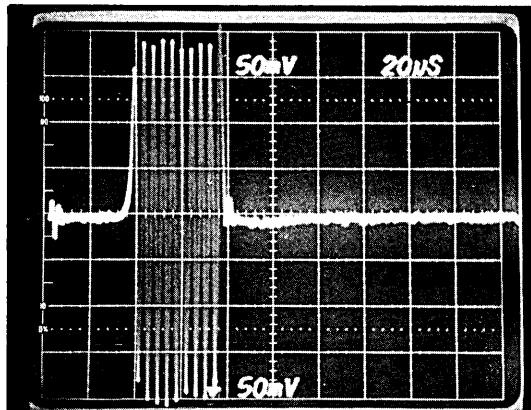

Figure 4-5. Index Sensor Alignment Oscilloscope Pattern
- (5) Perform CE alignment as required to locate the *cats-eye* pattern at track 38 (refer to Paragraph 4.5.5).
- (6) Perform 37 repetitive Step-Out commands to arrive at track 1.
- (7) Set oscilloscope horizontal time base to 20  $\mu$ sec per division.
- (8) Loosen screws retaining the photo-transistor bracket.
- (9) Referring to Figure 4-5, adjust photo-transistor bracket until first bit of the 40 sec burst recorded on track 1 occurs 40  $\pm$  40  $\mu$ sec after the Index pulse.
- (10) Secure retaining screws on the photo-transistor bracket.
- (11) Perform 75 repetitive Step-In commands and observe the burst on track 76. The burst must be within  $\pm$  20  $\mu$ sec of the position of the burst observed in Step (7), i.e., track 1.
- (12) If the bursts are not within  $\pm 20 \mu\text{sec}$  of each other, position the stepper motor horizontally (sideways) to bring the burst into alignment. To position the stepper motor, insert a flat-bladed screwdriver between the stepper motor frame and chassis. The screwdriver may be used as a lever to move the stepper motor in the direction desired.
- (13) Return to track 1 and ascertain that the bursts are within  $20 \mu\text{sec}$  of each other; if not, repeat Step (11).
- (14) Step to track 76 and verify burst alignment.
- (15) Perform a track 1 seek and adjust the index sensor bracket in accordance with Steps (1) through (9) as required to obtain index-to-data time of  $40 \pm 40 \mu\text{sec}$ .
- (16) Perform a track 38 seek and ascertain that *cats-eye* pattern is to specification (one lobe of the *cats-eye* being 80 percent of the other, minimum). Repeat Paragraph 4.5.5.2, if necessary.
- (1) Apply the necessary power and control to turn the drive motor on.
- (2) Insert a CE Alignment Diskette (PERTEC Part No. 600202-01) into the drive and close the loading door.
- (3) Load the magnetic head.
- (4) Position the carriage to track 1. Confirm the track 1 position by observing the index bursts recorded on track 1 (see Figure 4-5). Position carriage to track 0.